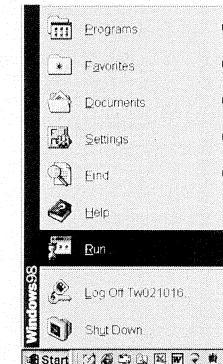

Fig. 4
2. Click , choose Run at start menu of Windows 95/98 as shown in Fig. 4.